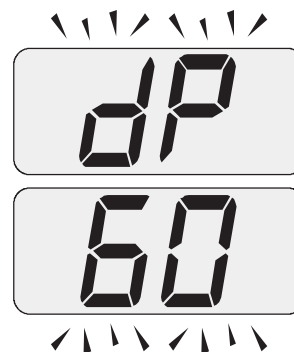

Figure 8.9
- 21 Press further key "G" to vary again the output in chimney sweep mode: when the display shows the letters **dp** that alternate with the heating water temperature value (e.g. 60), the "chimney sweep function" is at maximum output in domestic hot water mode" (Figure 8.9);